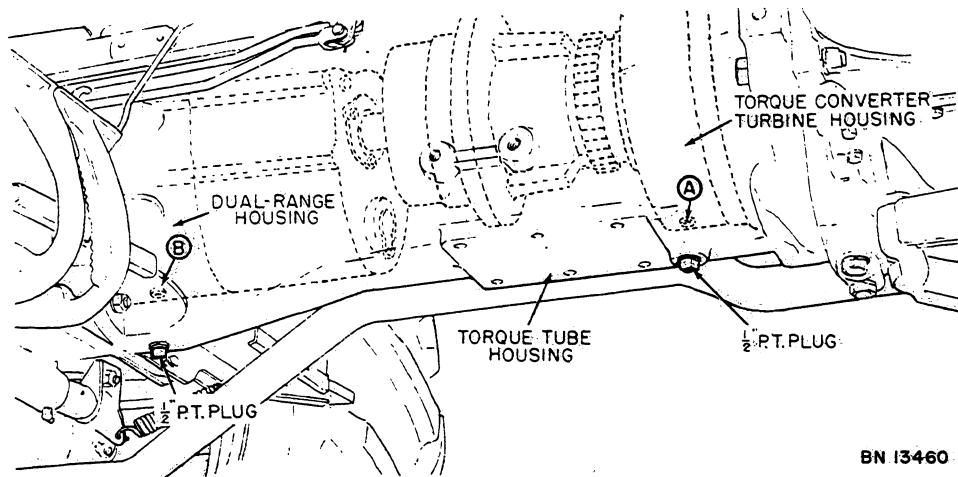

Figure 19 - Torque Tube Drain Plugs
2. Remove two (2) 1/2 inch pipe plugs, see Figure 19. Allow the oil to drain for several minutes.